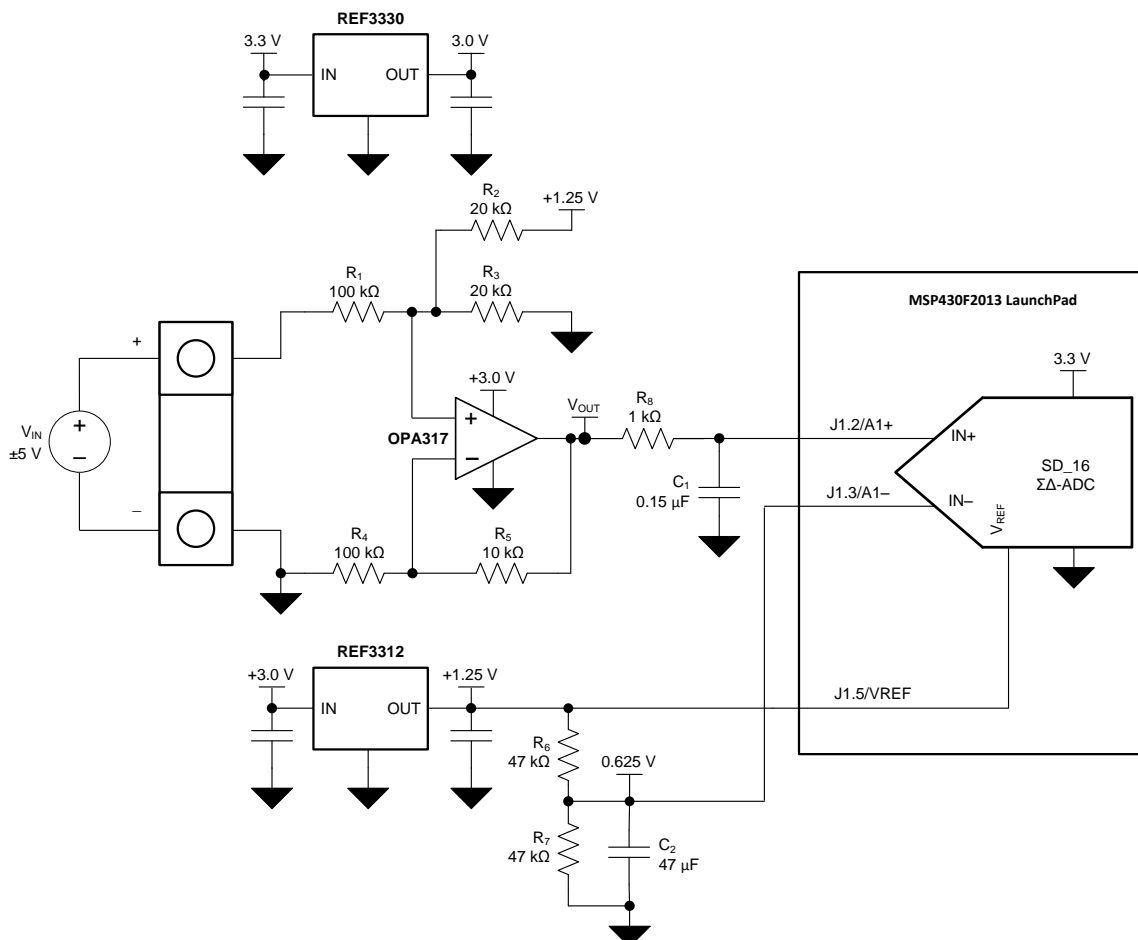

Figure 19. Bipolar Signal-Chain Configuration
The circuit in Figure 19 consists of a low-power reference and conditioning circuit. This circuit attenuates and level-shifts a bipolar input voltage within the proper input range of a single-supply, low-power, 16-bit  $\Delta\Sigma$  analog-to-digital converter (ADC), such as the one inside the MSP430 (or other similar single-supply ADCs). Precision reference circuits are used to level-shift the input signal, provide the ADC reference voltage, and create a well-regulated supply voltage for the low-power analog circuitry. A low-power, zero-drift op amp circuit is used to attenuate and level-shift the input signal.
**Figure 19** depicts a simplified schematic for this design showing the MSP430 ADC inputs and full input conditioning circuitry. The ADC is configured for a bipolar measurement where final conversion result is the differential voltage,  $V_{DIFF}$ , between the positive and negative ADC inputs, A1+ and A1–. The bipolar, ground-referenced input signal must be level-shifted and attenuated by the op amp so that the output is biased to  $V_{REF} / 2$  and has a differential voltage that is within the  $\pm V_{REF} / 2$  input range of the ADC. The transfer function for the op-amp circuit simplifies to Equation 4.